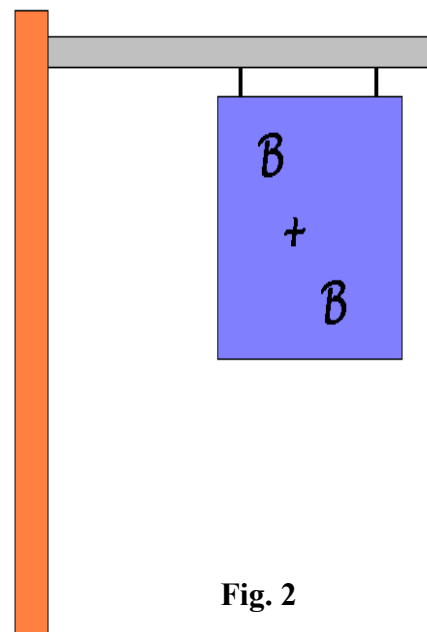

Fig. 2
- (b) The diagram in Fig. 2 shows a metallic bracket and wooden sign to be fixed to a wall outside a *Bed and Breakfast*.